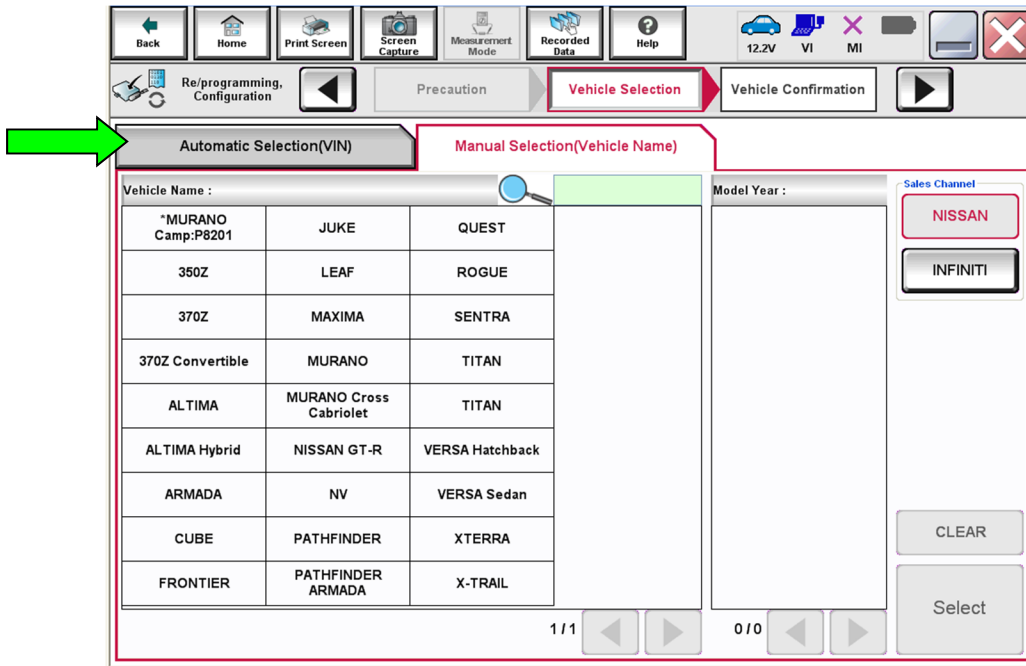

Figure 3
10. If the screen in Figure 3 displays, select **Automatic Selection(VIN)**.
- If the screen in Figure 3 does not display, skip to step 11.